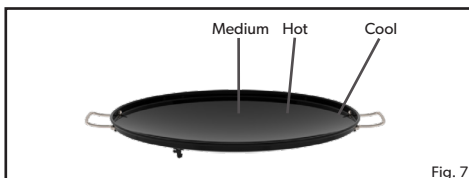

Fig. 7
- Cooking temperatures are easily adjusted to suit your own requirements by turning the control knob (G) to regulate the degree of heat. A feature of the Skottel BBQ is that it offers various heat zones (See Fig. 7). This is very useful as some foods cook quicker than others and the food that is ready first, can be moved to the cooler areas of the dish to keep warm whilst the balance of the food is still cooking.